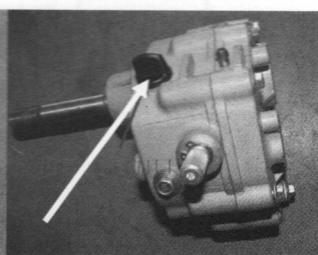

Fig.7
f. Change gear oil step: add 250 ml gear oil and then tighten bolts . (See Fig.7)